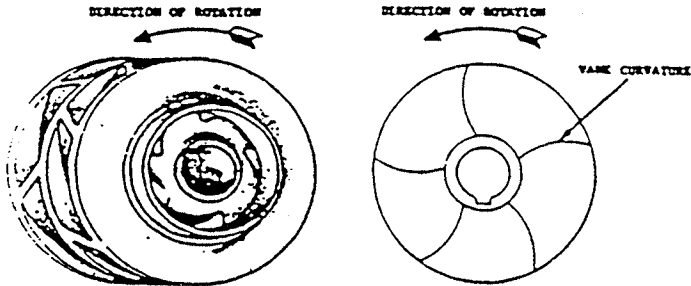

Figure 8A
1. Determine the correct positioning of impeller (101) on shaft. Facing the coupling end of shaft, determine proper rotation of unit (clockwise or counter-clockwise). Figure 8A shows proper relationship between rotation and impeller vane curvature for counter-clockwise rotation.
2. Slide impeller (101) on shaft with key (178) in place. Drive or press shaft into impeller. DO NOT DAMAGE END OF SHAFT. Line up impeller hub with scribe mark made on shaft during assembly.